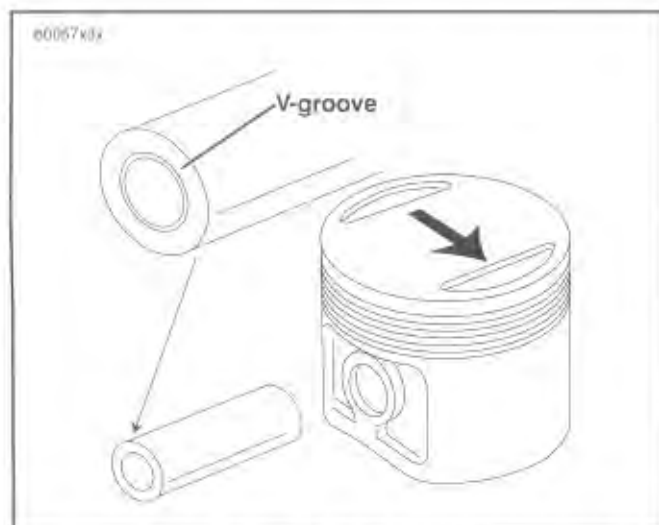

Figure 3-27. Piston Pin and Piston Identification
Since the piston pin is a loose fit in the piston, the pin will easily slide out. The pins have tapered ends to help seat the round retaining rings. See Figure 3-27. 1200cc piston pins are stamped with a V-groove at one end.
9. Mark each pin boss with either an "F" or an "R" to indicate front or rear cylinder, respectively. See Figure 3-27. The arrow at the top of 883cc and 1200cc pistons must always point toward the front of the engine.